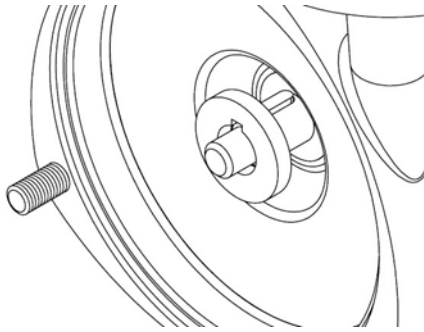

Figure 24
7. Insert the desired impeller shim (SB models only) Figure 24.